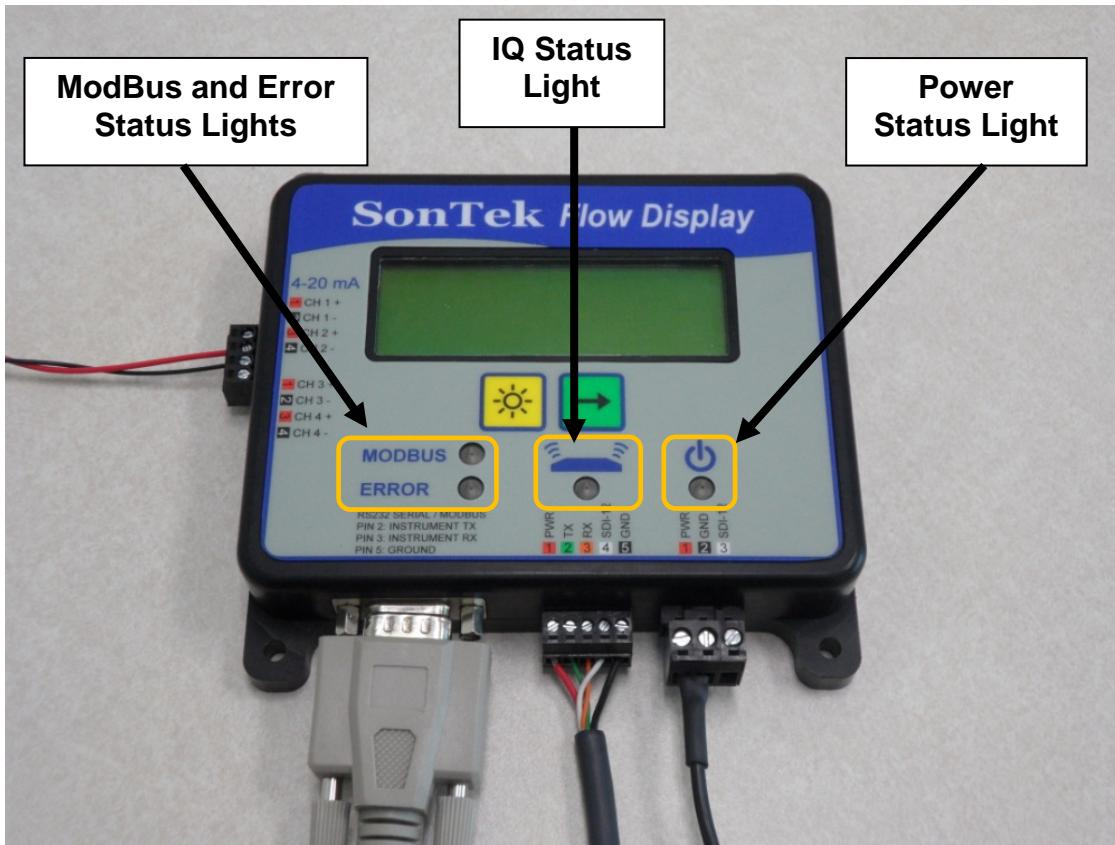

Figure D2. SonTek-IQ Flow Display Status Lights
- Figure D2 shows the connection of the IQ to the Flow Display.
- It is important to note that there are two options for the Flow Display – a standard version and one with four channels of analog outputs (Figure D2).